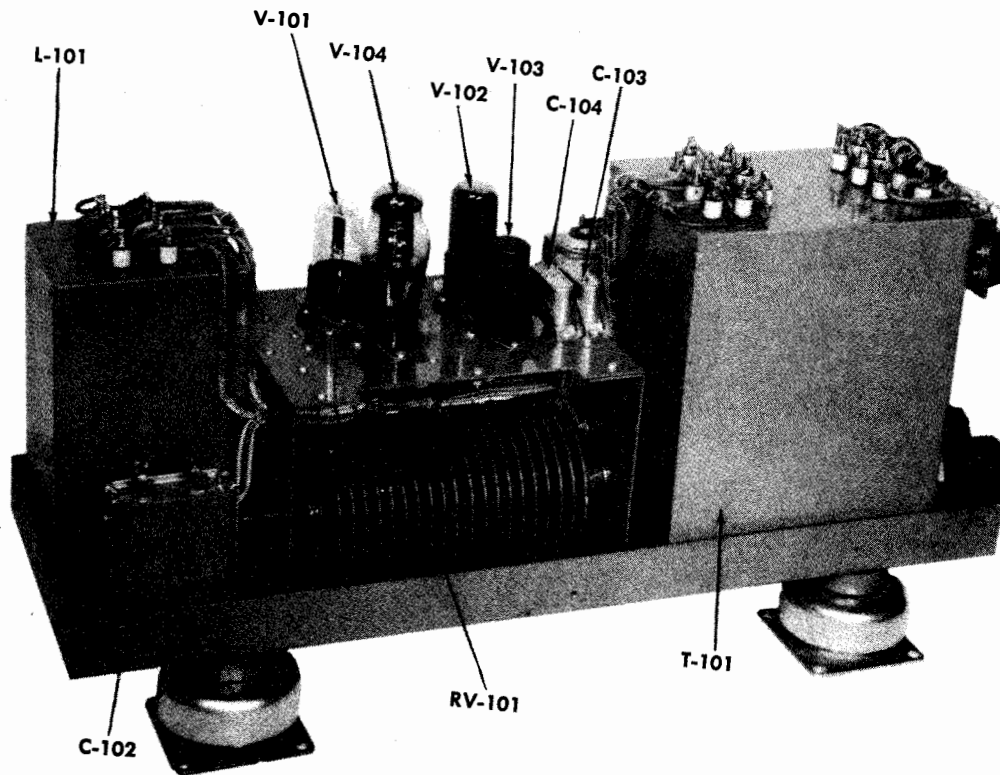

Figure 1-4 Power Supply PP-765/U Rear View, Cover Off.
(2) REAR VIEW. (See figure 1-4)